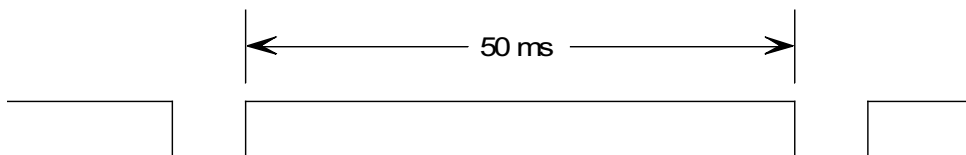

Figure 4-13. BFO Timer Pulse
4. Measure the width of the pulse on the oscilloscope from its leading edge to its falling edge (See **Figure 4-13**). The pulse should be 50 ms wide.